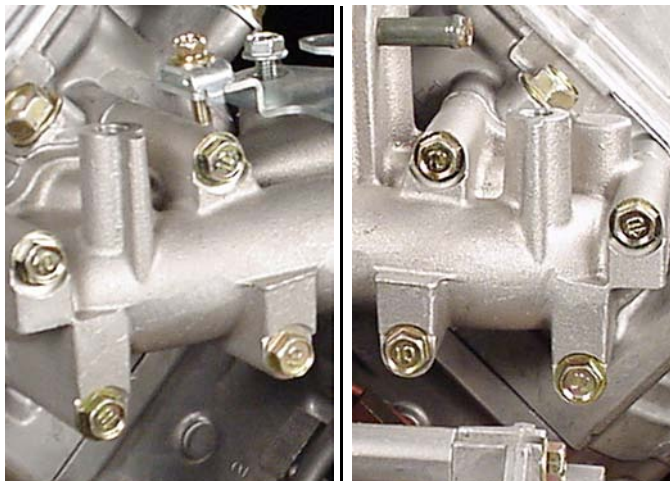

Fig. 161
1. Install intake manifold with new gaskets, Fig. 161.